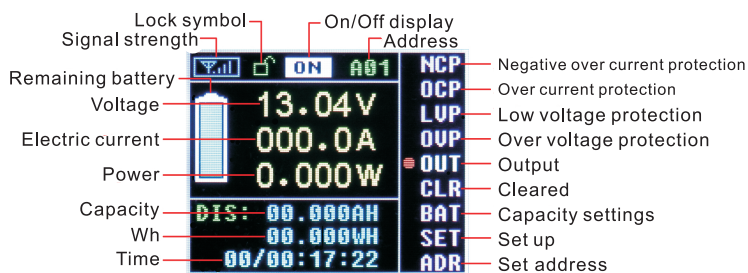

Figure 2-1
- This meter is a split structure, consisting of a display panel and the measuring board. Figure 2-1 is the diagram for the display board interface. The two parts can transfer data via the wireless module, and can also be connected via wire.